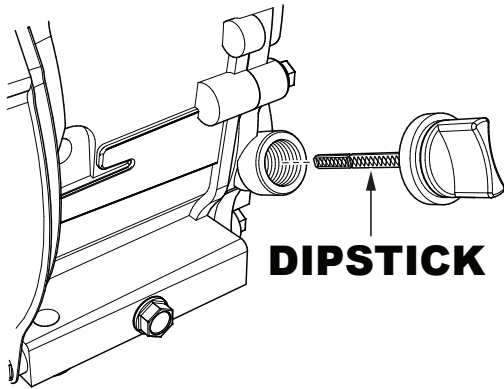

Figure 30. Engine Oil Dipstick
2. Remove the dipstick (Figure 30) from the engine oil filler hole and wipe it clean.